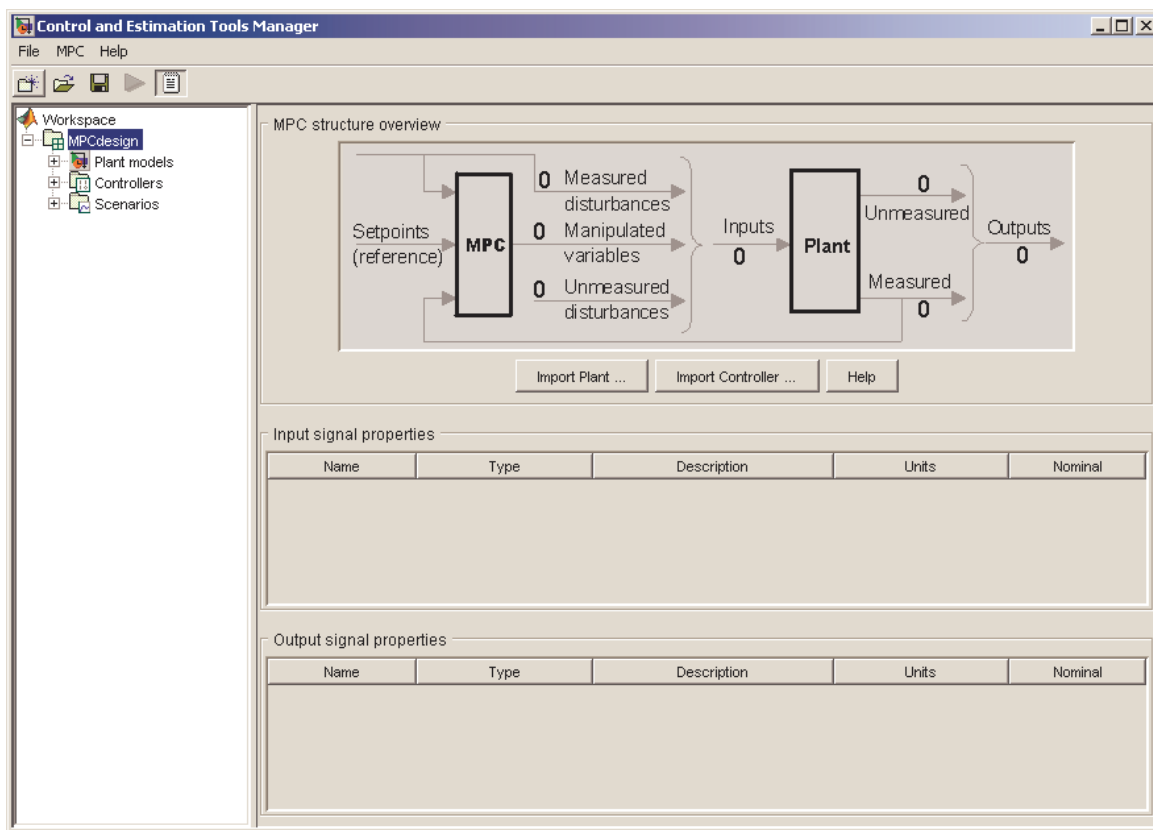
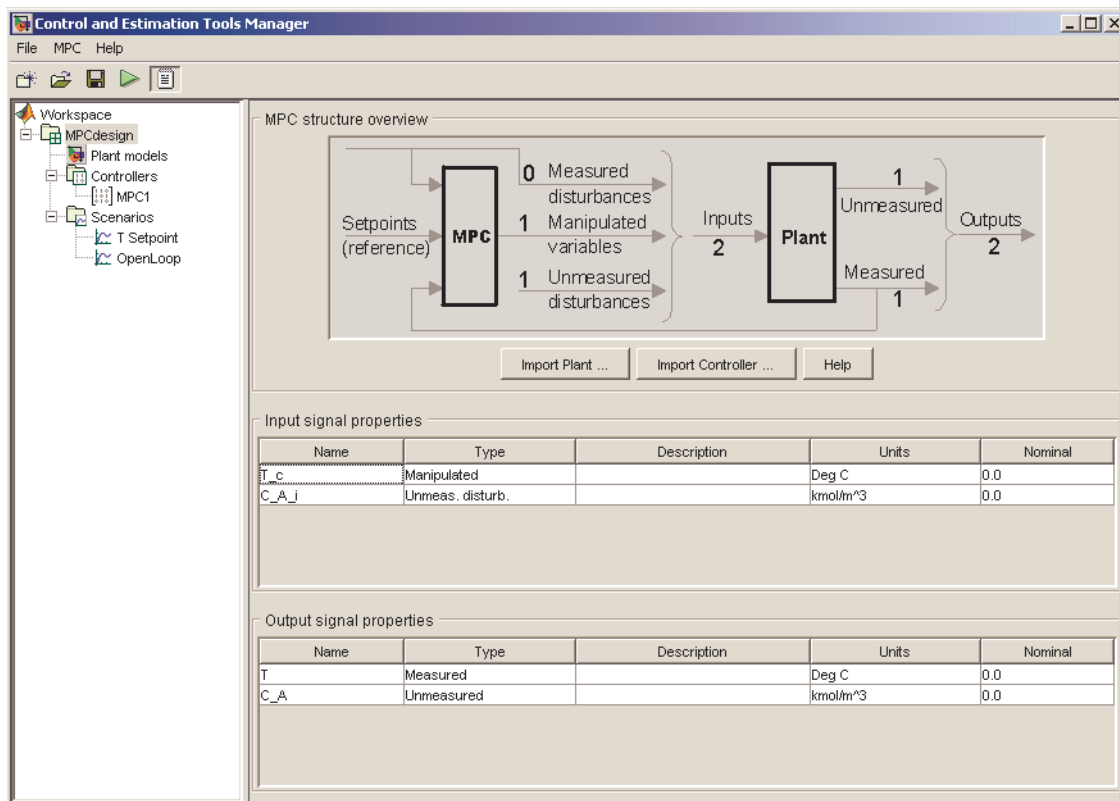

Figure 3-1: Model Predictive Control Toolbox Design Tool Initial View
Figure 3-3: Model Predictive Control Toolbox Design Tool's Signal Definition View
Click the **Import Plant** button in the design tool’s initial view (see Figure 3-1). The Plant Model Importer dialog box appears.
Click the **Import** button. This loads CSTR into the design tool. Then click the **Close** button (otherwise the dialog box remains visible in case you want to import another model). The design tool should appear as in Figure 3-3.
- The **Description** and **Unit** entries are optional. You can enter the values shown in Figure 3-3 manually. As you will see, the design tool uses them to label plots and other tables.
The *tree* in the left-hand frame of Figure 3-3 shows that the default **MPCdesign** node (see Figure 3-1) has been renamed **CSTRcontrol** by clicking on the name, waiting for the usual edit box to appear, typing the new name, and pressing **Enter** to finalize the choice.
Figure 3-3 also shows three new nodes below **CSTRcontrol**. These activate once you've imported a plant model (or controller).
For example, clicking the *project* node (**CSTRcontrol** in Figure 3-3) allows you to review and edit the signal properties tables.
The C_{A_i} input's nominal value is 0.0 (see Figure 3-3), so the above models a sudden increase to 1 at the beginning of the simulation. The following is an equivalent setup using the Step type.